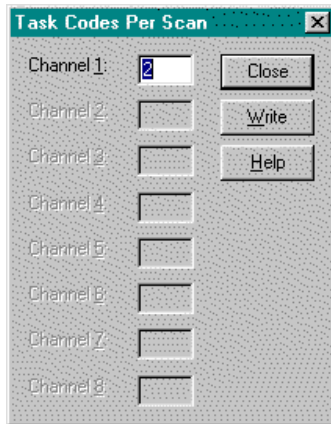

Figure 6.12c
2. The Task Codes Per Scan dialog box is displayed in the format shown in Figure 6.12c. Only numbers for the channels you have configured are displayed; e.g., if you have four channels, the number goes to 4.